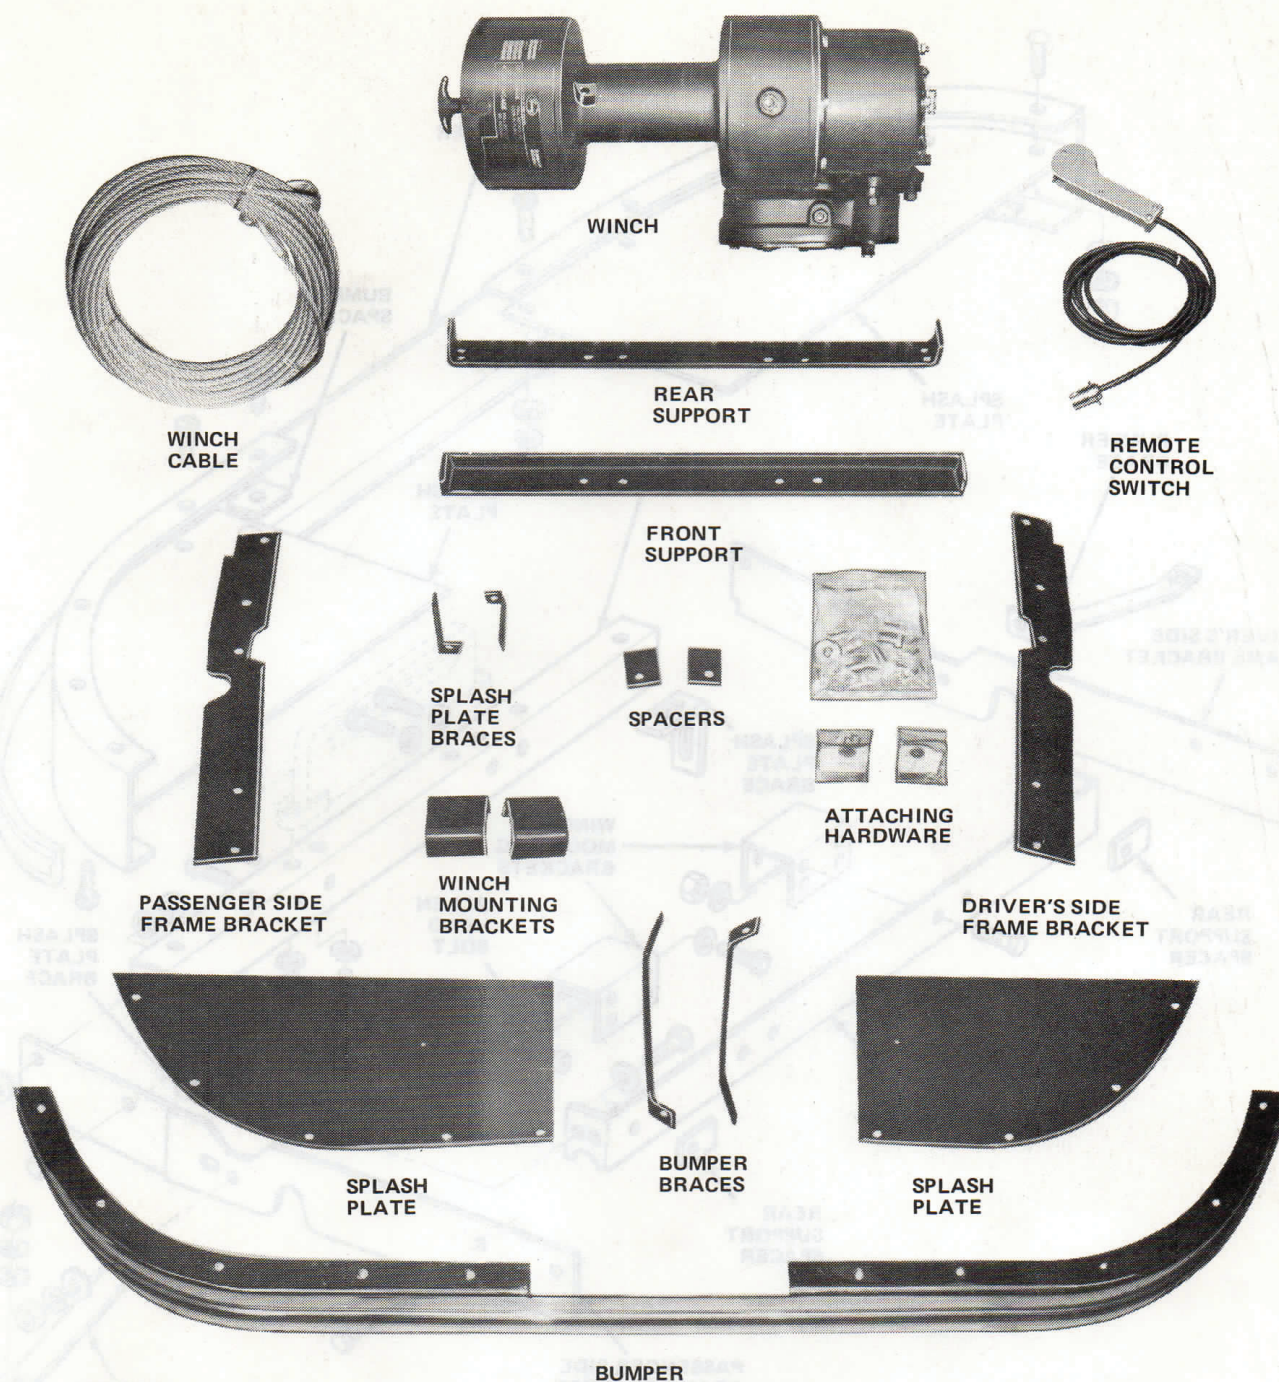

Fig. 5-24 Ramsey Winch Kit with Bumper—1976-79 Cherokee-Wagoneer-Truck
**NOTE:** The Ramsey electric winch kit with special equipment bumper may be installed on all 1976-79 Cherokee, Wagoneer and Truck models. Before beginning installation, check the kit contents to be sure all necessary components are included (fig. 5-24).
(1) Raise vehicle on hoist.
(2) Remove bolts attaching front bumper mounting brackets to frame rails and remove bumper and brackets as assembly. Retain attaching bolts, nuts, lockwashers.
(3) Position winch on workbench. Do not remove shipping strap from winch at this time.